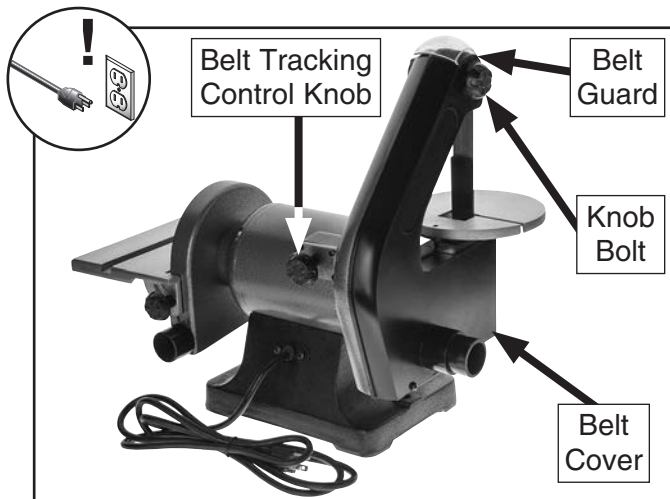

Figure 17. Location of sanding belt components.
2. Remove knob bolt and belt guard (see **Figure 17**).
3. Remove three Phillips head screws from sanding belt cover and remove cover from sander (see **Figure 17**).
4. Fully loosen tracking control knob to remove tension from sanding belt (see **Figure 17**).